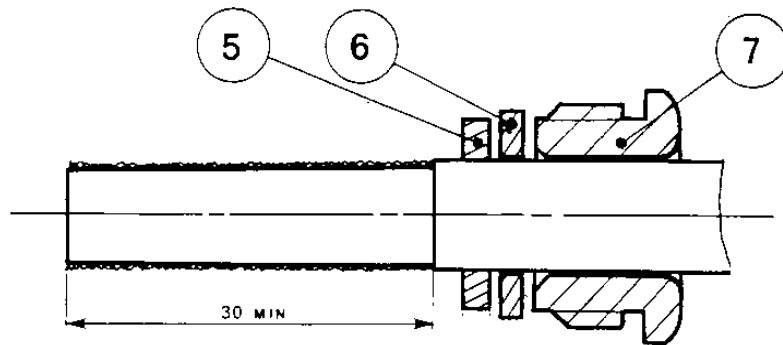

Figure 4
- 1) Tighten adaptor (10) with sealing ring (11) on body (21).
- 2) Trim jacket to dimension shown, see Figure 4.
- 3) Place nut (7) washer (6) and sealing ring (5) on cable.